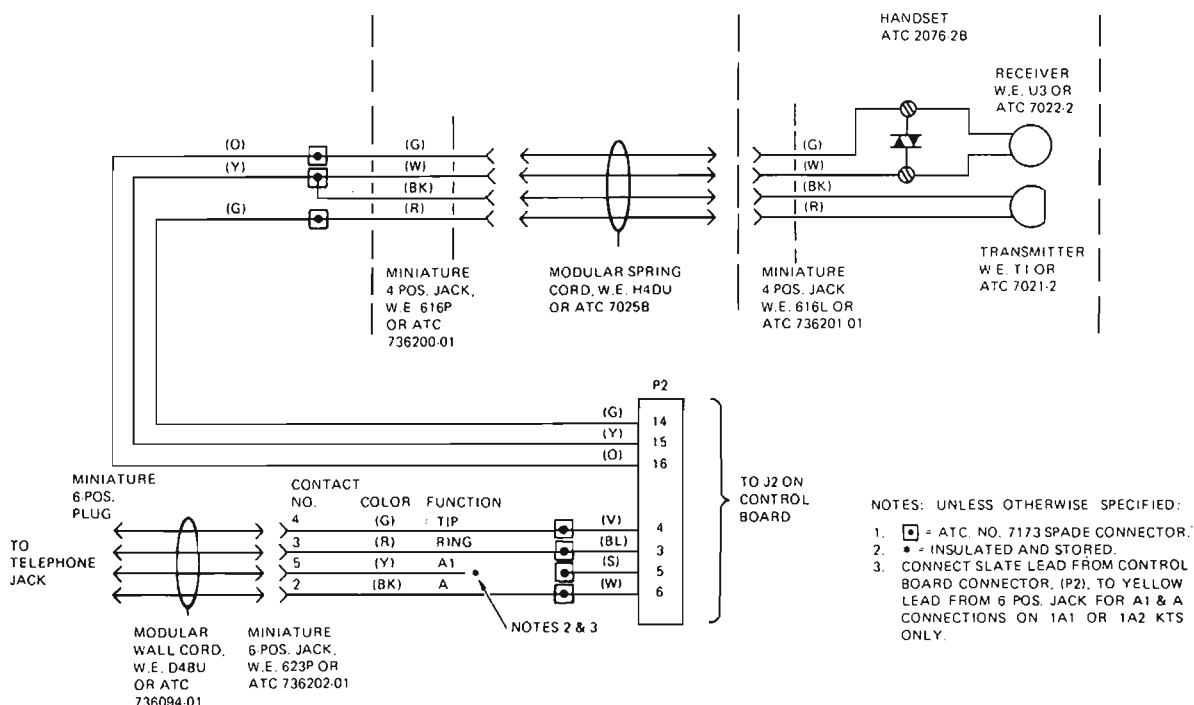
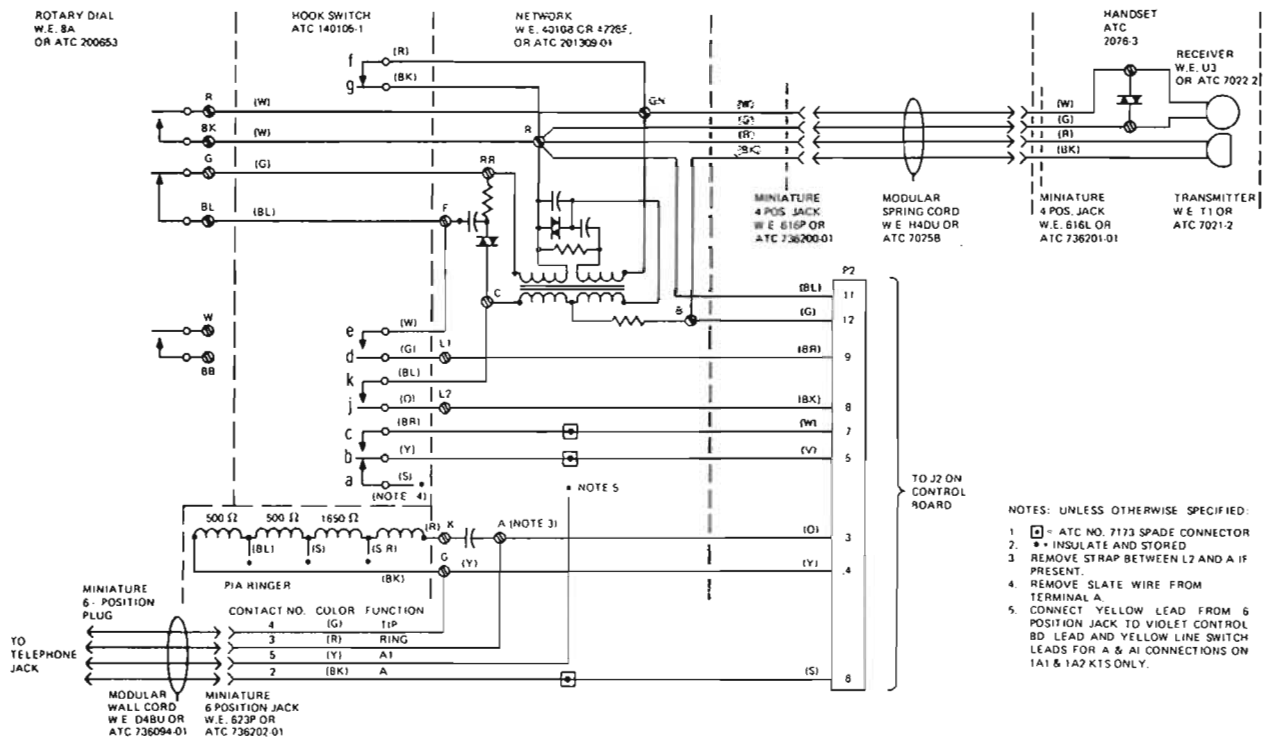

Fig. 4—Model 1000T Connection for Adjunct Unit
Fig. 5—Model 1000T Connections for Rotary Dial
3.08 Contact closure is provided in all units for shorting A (black) and A1 (yellow) connections in Key System installations (Fig. 4, 5, and 6). These contacts close when The AutoMatic TelePhone answers a call and remain closed throughout the answer cycle. This option is enabled by making a single wire connection as defined in Note 3 of Fig. 4 and Note 5 of Fig. 5 and 6. To make these connections, first remove the cover and dial from The AutoMatic TelePhone. Note that the A1 lead (Y) is insulated and stored. It should be connected to the slate (s) or yellow (y) and violet (v) leads, which are already connected with a white connector, as described in the previously mentioned notes.